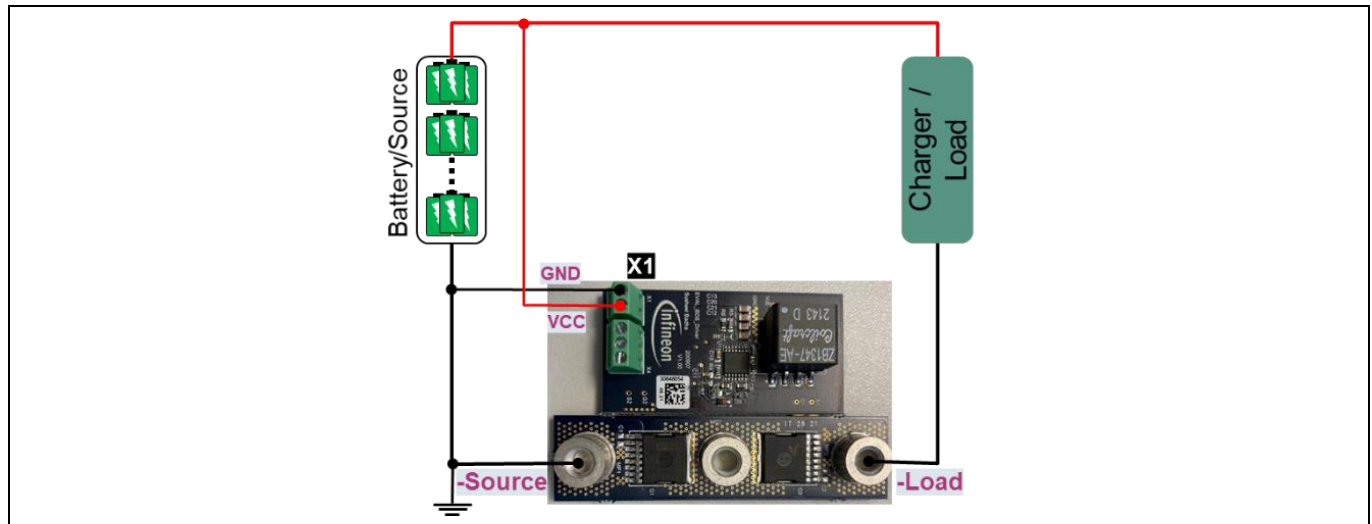

Figure 10 Powering the gate driver board with battery/source
1. **Battery or source:** As shown in Figure 10, connect pin 2 of the X1 connector on the gate driver board with the battery positive terminal and pin 1 to the battery negative terminal.